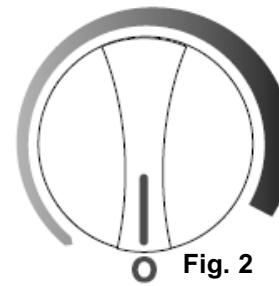

Fig. 2
- To turn off the freezer (no cooling), rotate the control knob to the "0"(off) position. See Fig.2.